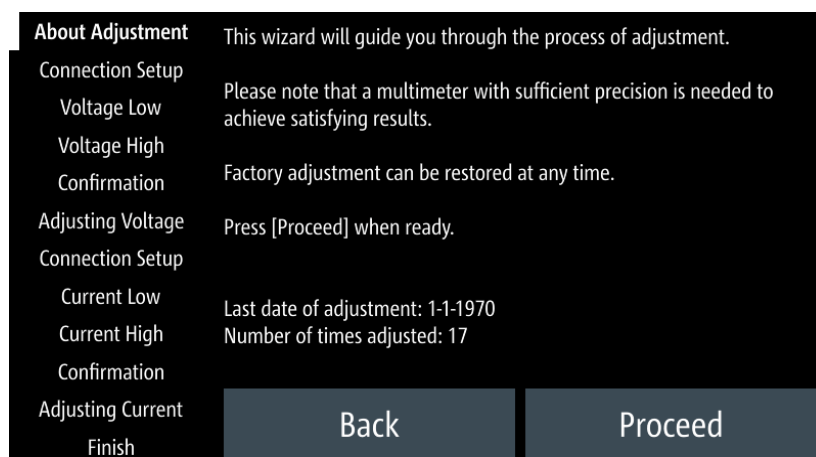

Figure 6-43: Channel adjustment wizard
5. Follow the on-screen instructions displayed in the Figure 6-43.